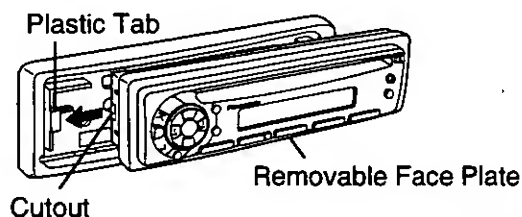

Fig. 4
- ① Slide the left side of the removable face plate in place. (⇒ Fig. 4)